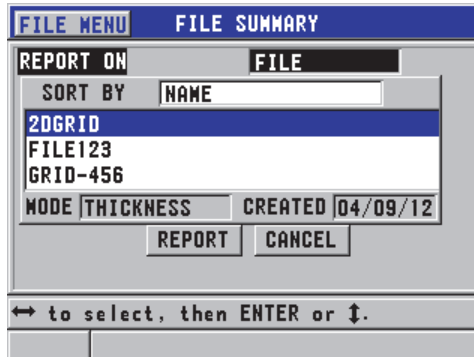

Figure 6-39 The FILE SUMMARY report screen
3. In the **FILE SUMMARY** screen (see Figure 6-39 on page 123):